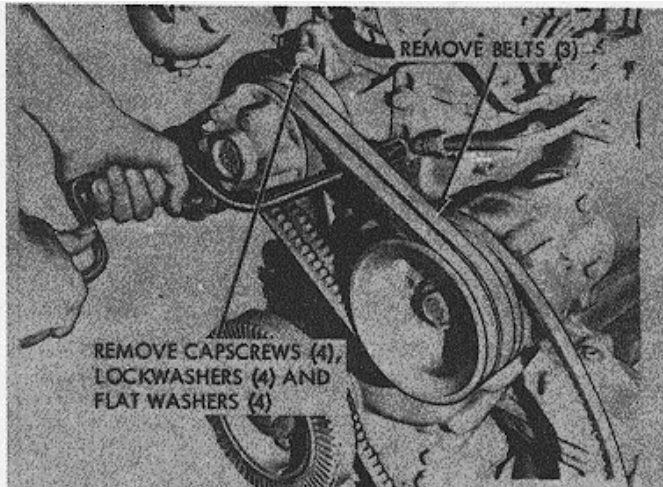

Figure 3-110. Fan hub assembly removal and installation.
a. Removal. Refer to figure 3-110 and remove fan hub assembly.